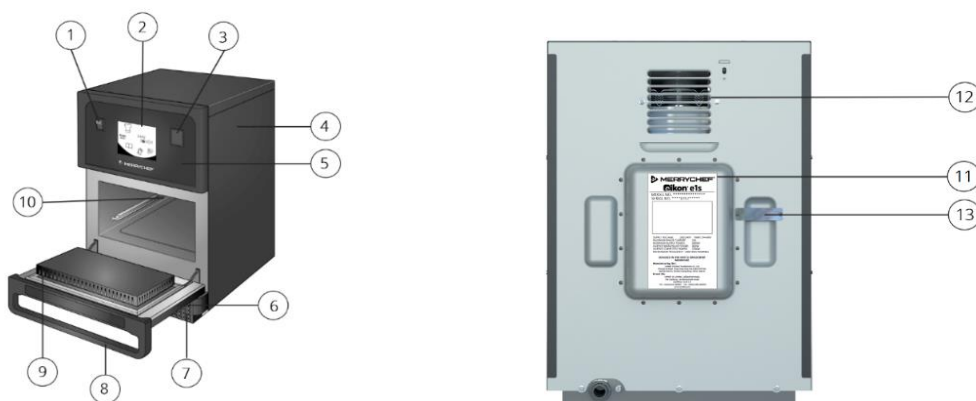

Figure 1.3: e1s front and rear views – parts and safety devices
- The air filter (Figure 1.3, item 7) is part of the ventilation system and should be cleaned daily.